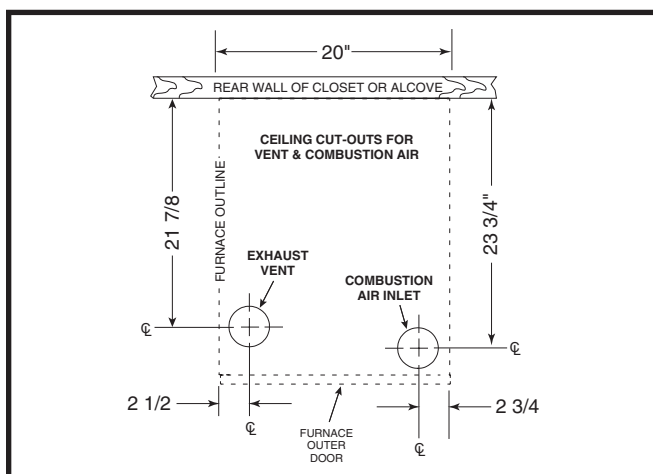

Figure 11. Ceiling Cut-Out Dimensions
2. Using the centerlines as a starting point, draw the rest of the cut-outs to the dimensions shown in Figure 11.